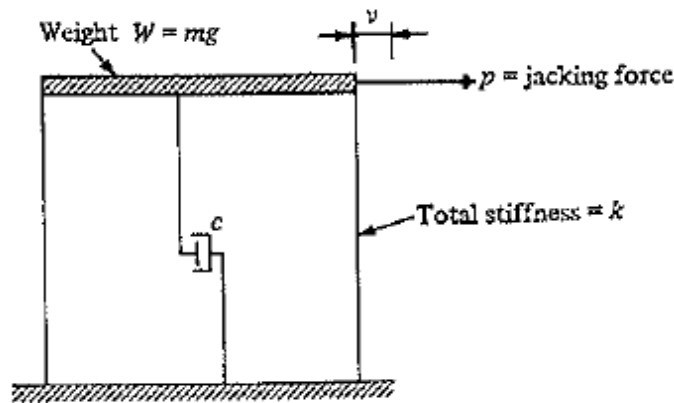

Fig.3
13. a) Explain logarithmic decrement and its practical significance (4)
b) A one storey building is idealized as a rigid girder supported by weightless columns as shown in Fig. 3. In order to evaluate the dynamic properties of this structure, a free